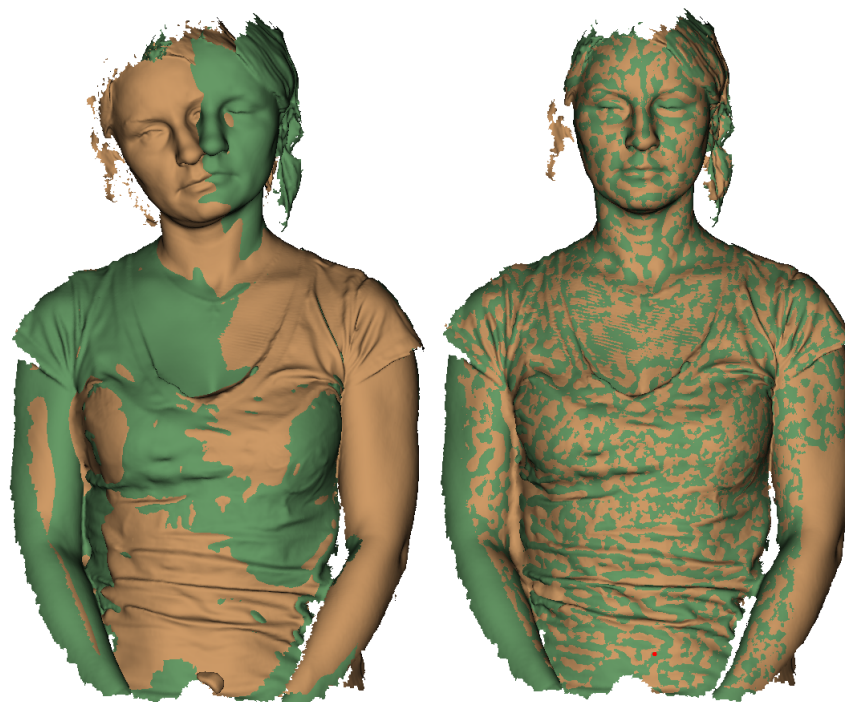

Figure 75: Two models after rigid (left) and nonrigid alignment (right).
Whereas rigid alignment can only perform such transformations as translation and rotation, the nonrigid algorithm can deform 3D data. This algorithm is intended to process so-called nonrigid objects: objects whose shapes have changed during the scan (e.g., models of animals or humans—see Figure 75, left). Keep in mind that the surface Artec Studio produces as a result of the deformation may differ from the surface of the actual object.
5. Click *Align....* The algorithm will align models by deforming one of the model (see Figure 75, right). If you are dissatisfied with the alignment results, click  and specify additional point pairs, or reposition the current pairs.